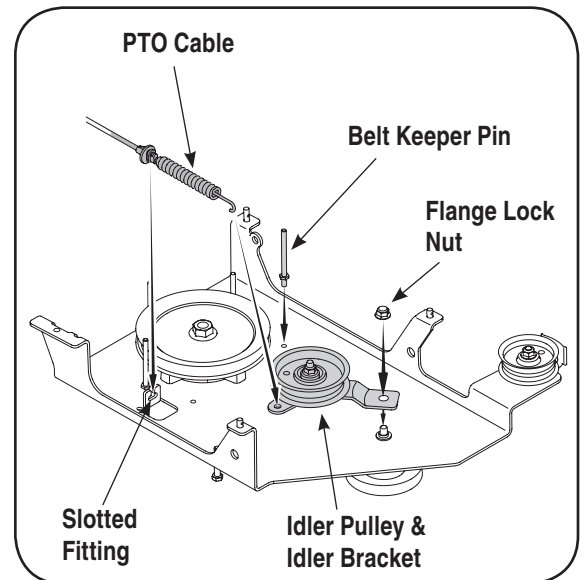

Figure 19
2. Remove the flange lock nut as pointed out in Figure 19, leaving the spacer underneath it in place. Mount the idler pulley (756-0627D) and idler bracket (783-1291) from the loose parts included in this carton. Replace the flange lock nut.
Attach the PTO cable to the idler bracket, then fit the cable into the slotted fitting as seen in Figure 19.
Install the additional belt keeper pin and hardware included with the loose parts in this carton. See Figure 19 for belt keeper location placement.